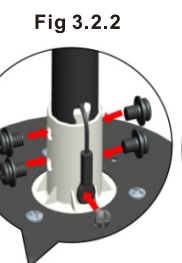

Fig 3.2.2
- Note:** Take out the end of the safety cable from the downrod before sliding the downrod into the plastic head of the motor assembly. Align the holes, secure with screws and washers in opposite directions from each other (2 sets on each side) and make sure the screws and washers are tightened firmly with a screwdriver. Remove the screw already set inside of the motor shaft, then secure the safety cable into the motor shaft firmly by this screw. (See Fig 3.2.2 & 3.2.3)